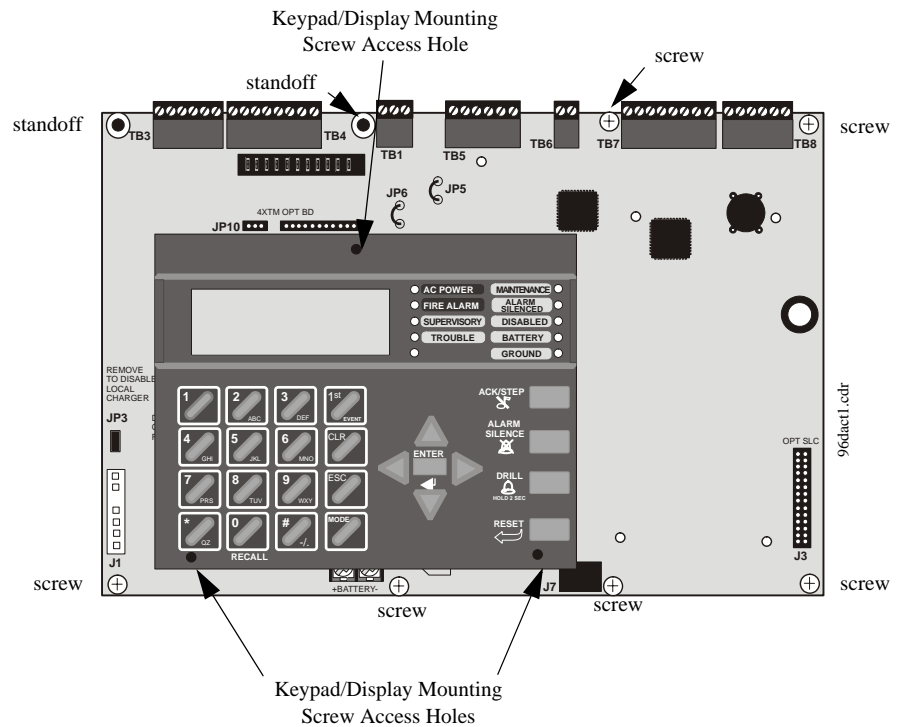

Figure 2.1 Keypad/Display Removal
2. Remove all main circuit board mounting screws (6 locations) and the 4XTMF module standoffs (2 locations), unplug the power supply cable from J1 and lift the main circuit board assembly off the chassis (refer to Figure 2.1)